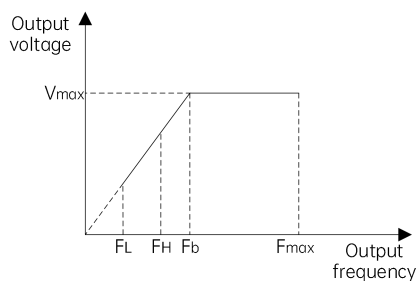

Fig. 7-6 Frequency limit parameter definition
The maximum output frequency is the highest frequency allowed by the drive, such as F_{max} in Fig. 7-6;
The upper limit frequency is the highest frequency allowed in operation set by the user, such as F_H in Fig. 7-6;
The lower limit frequency is the lowest frequency allowed in operation set by the user, such as F_L in Fig. 7-6;
F_b in Fig. 7-6 is the basic operating frequency, defined as the minimum corresponding output frequency when the drive outputs the highest voltage in the V/f mode.
- ① The maximum output frequency, upper limit frequency and lower limit frequency should be carefully set according to the actual nameplate parameters of the controlled motor and the needs of the operating conditions.
- ② The limit range of the upper and lower frequency has no effect on the JOG operation, but it will affect the auto-tuning of the motor (parameter identification).
- ③ In addition to the upper limit frequency and lower limit frequency, the output frequency of the drive during operation is also limited by the startup frequency, start frequency of DC braking at stop, jump frequency and other parameters.
- ④ Fig. 7-6 shows the relationship between the maximum output frequency, upper limit frequency, and lower limit frequency. Note the value ranges during setting.
- ⑤ The upper and lower frequency limits are used to limit the actual output frequency to the motor. If the frequency reference is higher than the upper limit frequency, the device will run at the upper limit frequency; if the frequency reference is lower than the lower limit frequency, the device will run at the lower limit frequency; and if the frequency reference is lower than the startup frequency, the device will run at zero frequency.